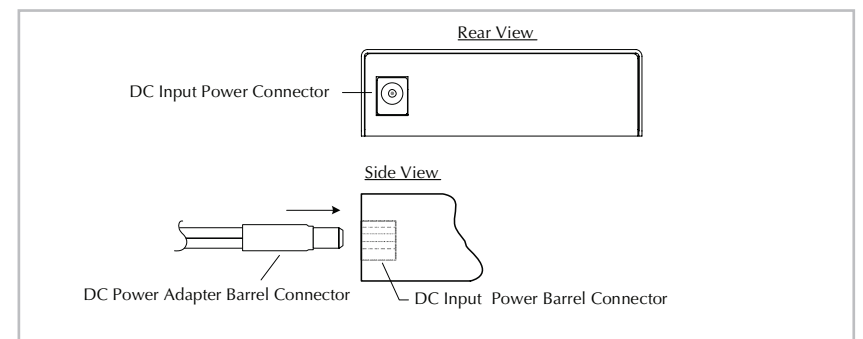

Figure 13: Connecting External Power
2. Insert the barrel connector on the power cord of the external DC power supply into the receiver, as shown in Figure 13.